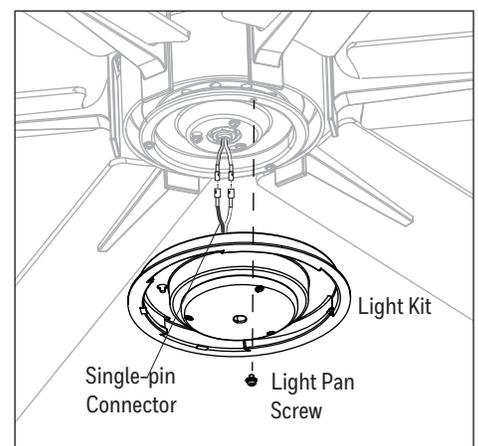

Figure 4.6
6. Remove one of the three light pan screws from the light pan. Connect the single-pin connector from the light pan to the single-pin connector from the light kit--blue to black and white to white. Lift the two keyhole slots in the light kit over the two loosened light pan screws and turn in a clockwise direction. Then, use the previously removed light pan screw to secure the light kit to the light pan (Figure 4.6).